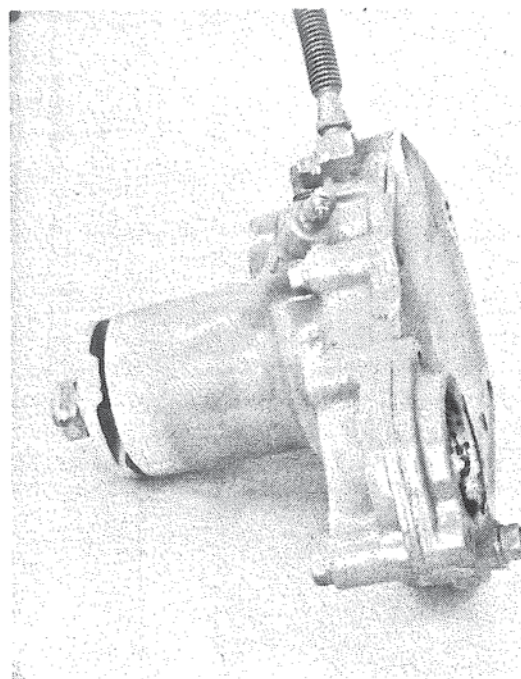

Figure 17. Installing Cover.
7. Install new cover gasket, cover and cover mounting bolts securely. Figure 17.